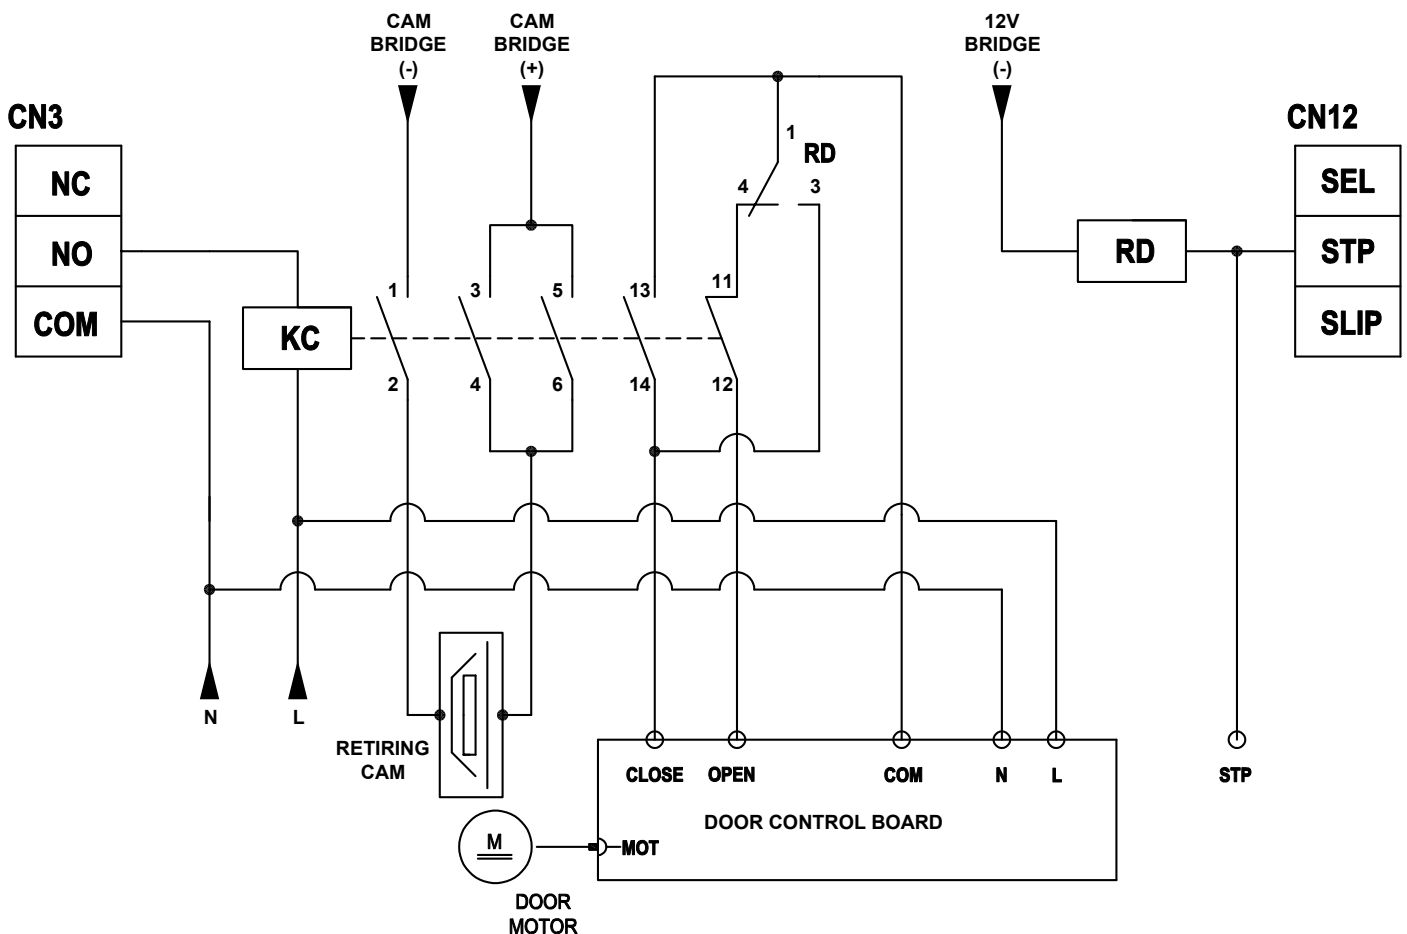

Figure 12.0 - Single-Phase Semi-Automatic Door Connections
- In this case, the door is considered as a Manual Door, therefore the CAM terminal (CN3) is connected as illustrated in Figure 12.0.